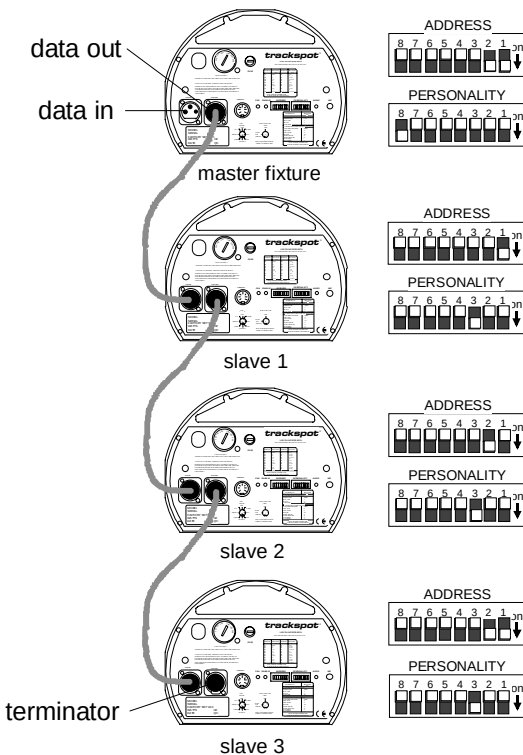

Figure 2-11. Linking master and slave fixtures together
3. Link the master and slave fixtures together with 3-pin XLR data cables. Plug the male end of a data cable into the Data Out connector on the rear panel of the master fixture. Plug the female end of that data cable into the Data In connector of the first slave fixture. Continue using this method to link the remainder of the slave fixtures together (see Figure 2-11).